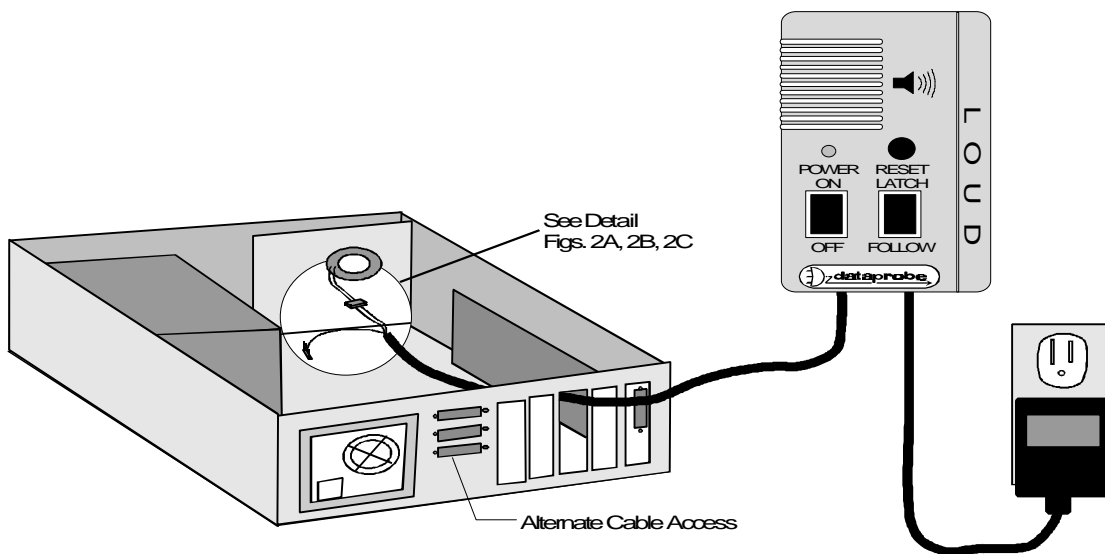

FIGURE 2
Refer to Figure 2. See page 3 for detailed installation.
2. Snake PC-LOUD cable into PC through unused rear plate or other suitable entry point. See Figure 2 Locate the connection between the speaker and the PC motherboard.
PC-LOUD connects to both the internal speaker and to the speaker connection on the PC motherboard. To connect PC-LOUD, follow these step-by-step instructions. Refer to Figure 2 for assistance.
The Speaker Cable from PC-LOUD has to be inserted through the chassis of the PC so that the cover of the PC can be closed without pinching the Speaker Cable or interfering with other PC functions. An unused plate in the rear of the PC can be used for this purpose. (Figure 2)